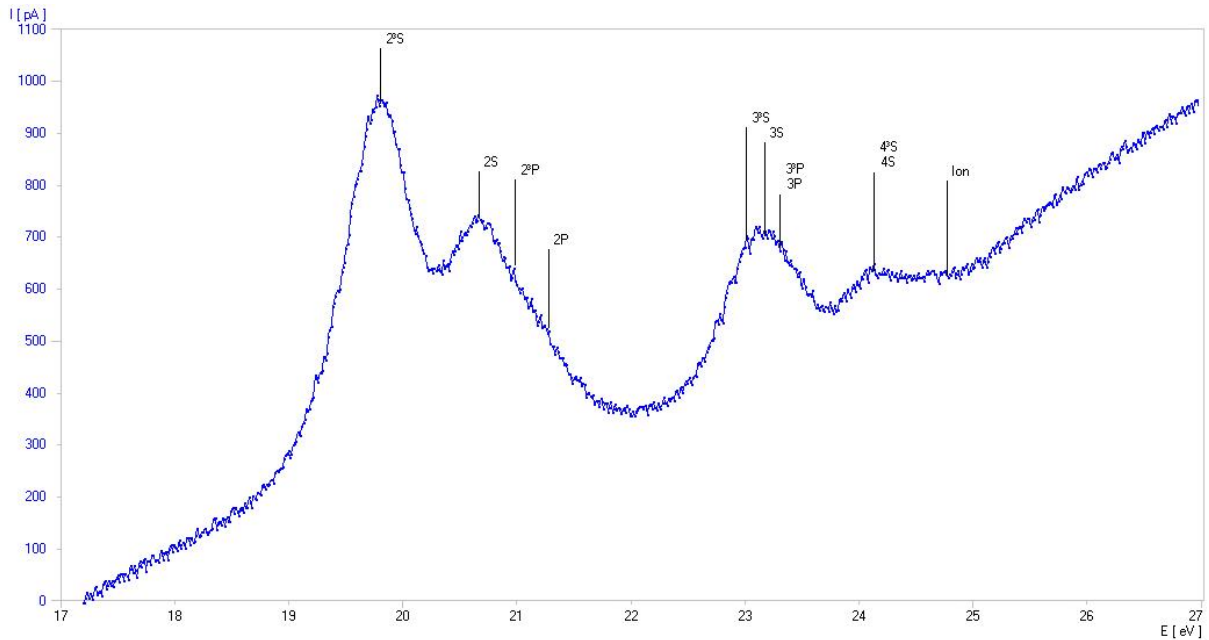

Fig. 3: Determination of critical potentials for helium atoms (curve recorded using 3B NETlog™)
- Set up a graph with the quantity E on the x-axis and the quantity I on the y-axis. (See Fig. 3).